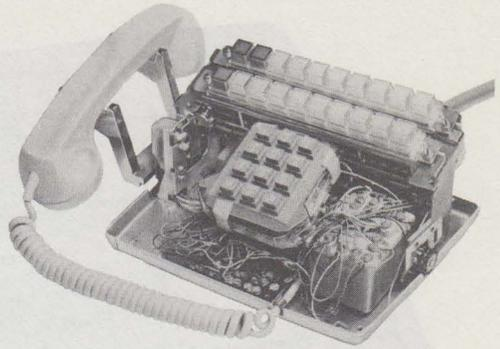

Fig. 10—2833A Telephone Set (Housing Removed)
2.24 The 2833A telephone set (Fig. 10) is the same as the 833A telephone set except it is equipped with a TOUCH-TONE dial.